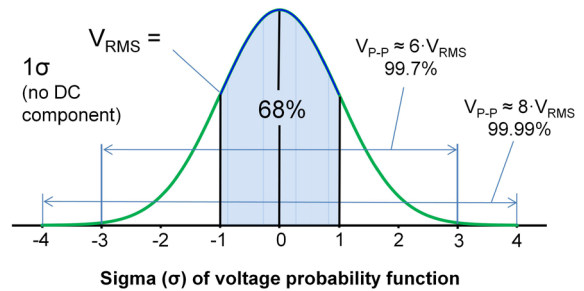

Figure 58: Gaussian noise spikes outside the ± 3 -times range are rare.
Resistor noise is also Gaussian, a description of its amplitude distribution, a probability density function. It is Gaussian because it was created by the summation of a gazillion little random events. The central limit theorem explains how this noise becomes Gaussian. The root-mean-square (RMS) voltage of alternating current (AC) noise is equal to $\pm 1 \sigma$ of the amplitude distribution (Figure 58). For 1-V RMS noise, there is a 68 percent ($\pm 1 \sigma$) probability that the instantaneous voltage will be within a ± 1 -V range. A common misconception is to relate or equate white and Gaussian, but they are unrelated. Filtered resistor noise, for example, is not white but remains Gaussian. Binary noise is definitely not Gaussian, but it can be white. Resistor noise is white and Gaussian.